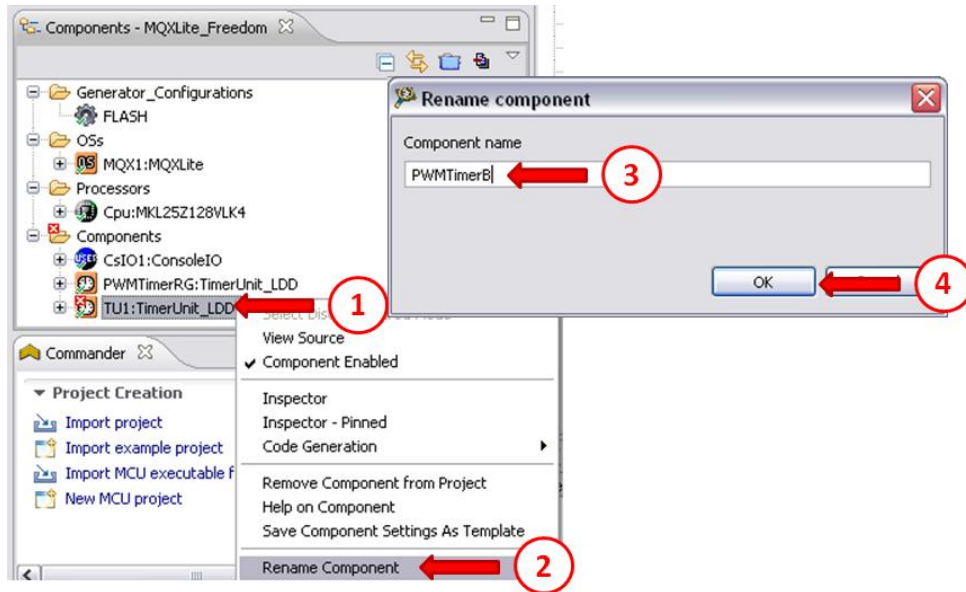

Figure 33. Modify component name.
- It is necessary to change the name to standardize the source code. To modify the name of the component give a right click on it and then type the “PWMTimerB” name. This name means that this PWM controls the Blue LED inside the RGB LED. Figure 33 shows the details.